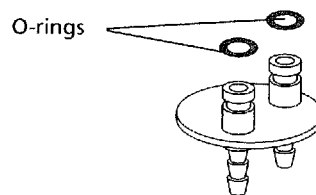

Figure 65. Replace the terminal barb O-rings.
2. Remove and replace the terminal barb O-rings (see Figure 65) using the two O-rings in the syringe service kit.